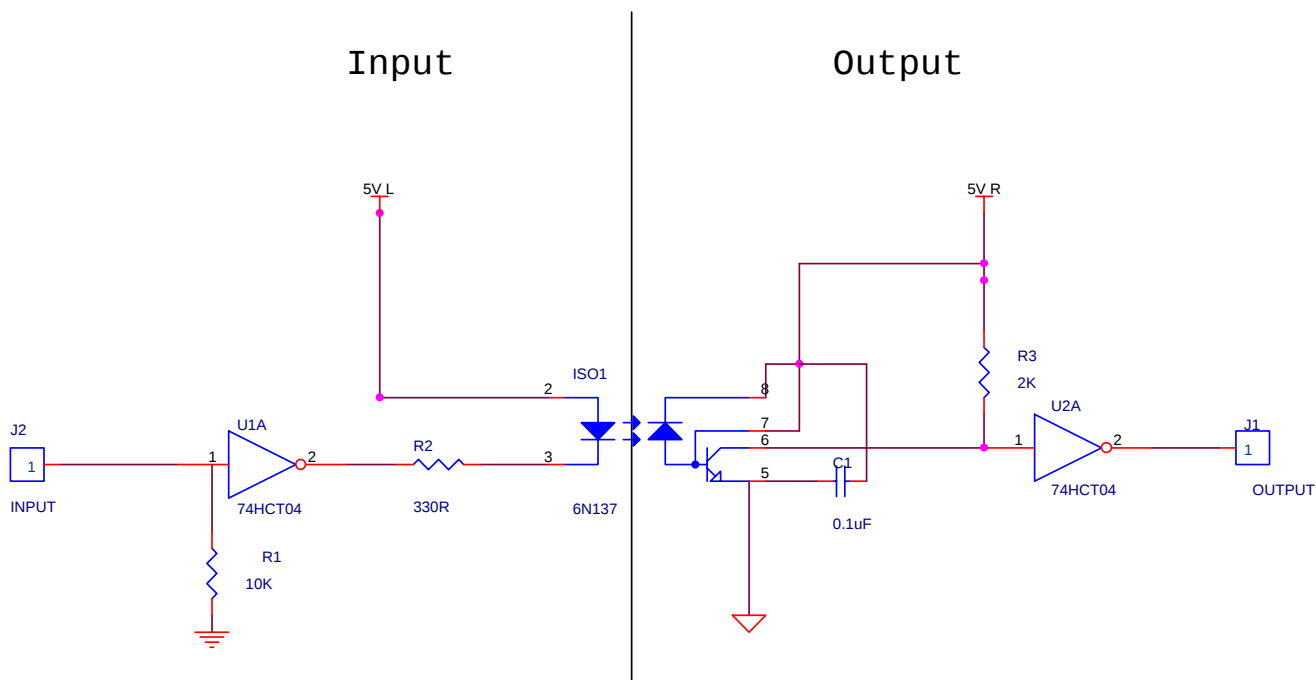
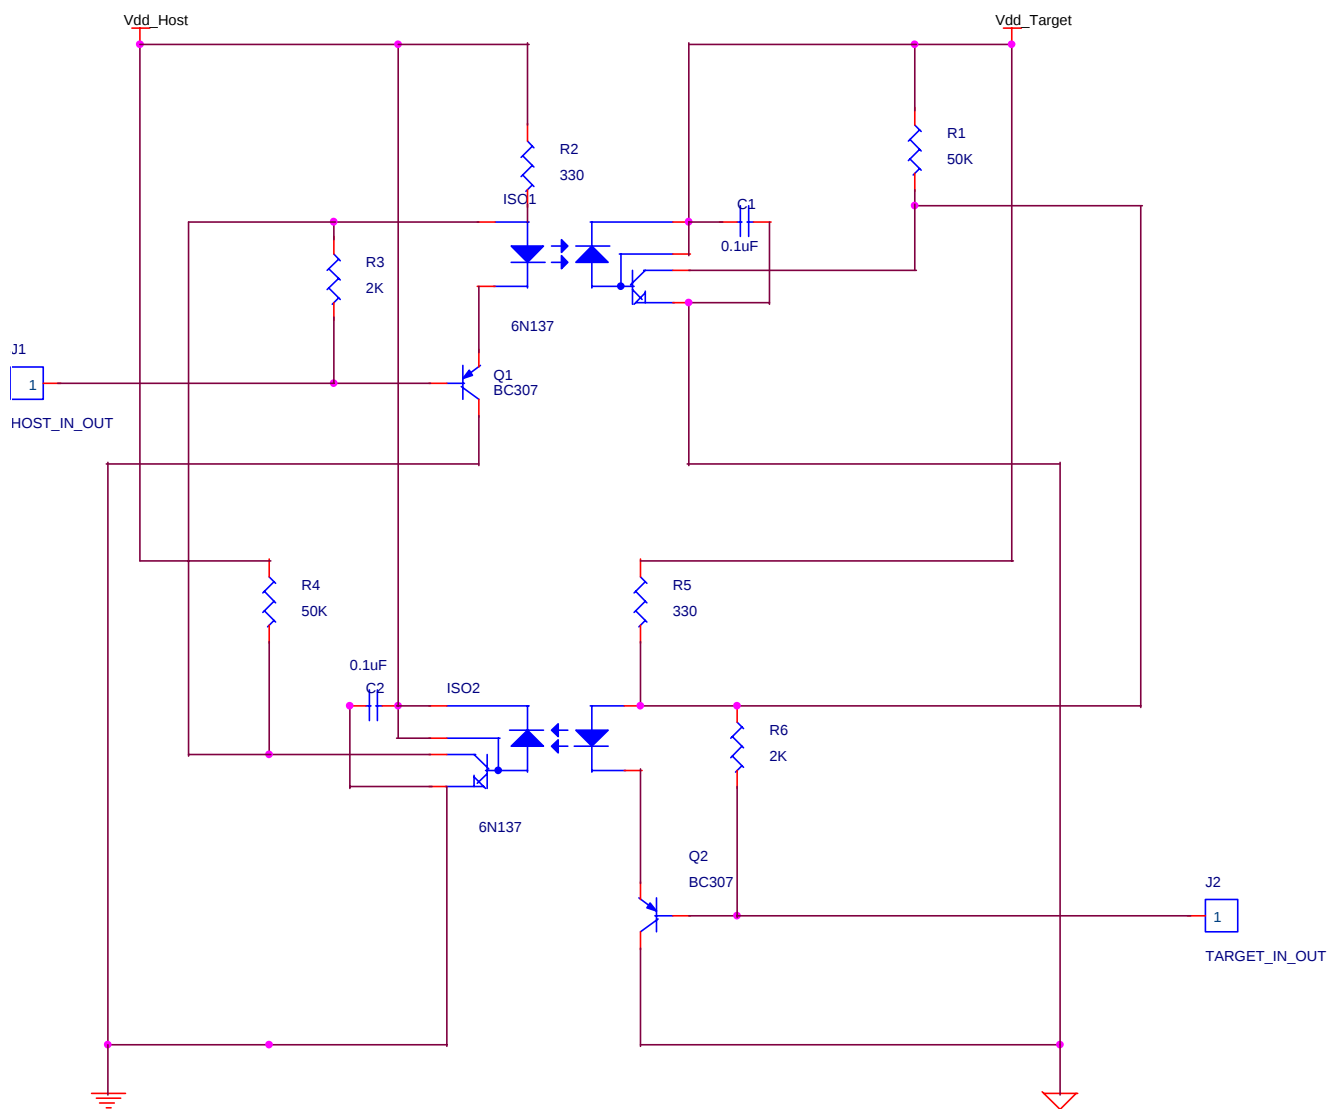
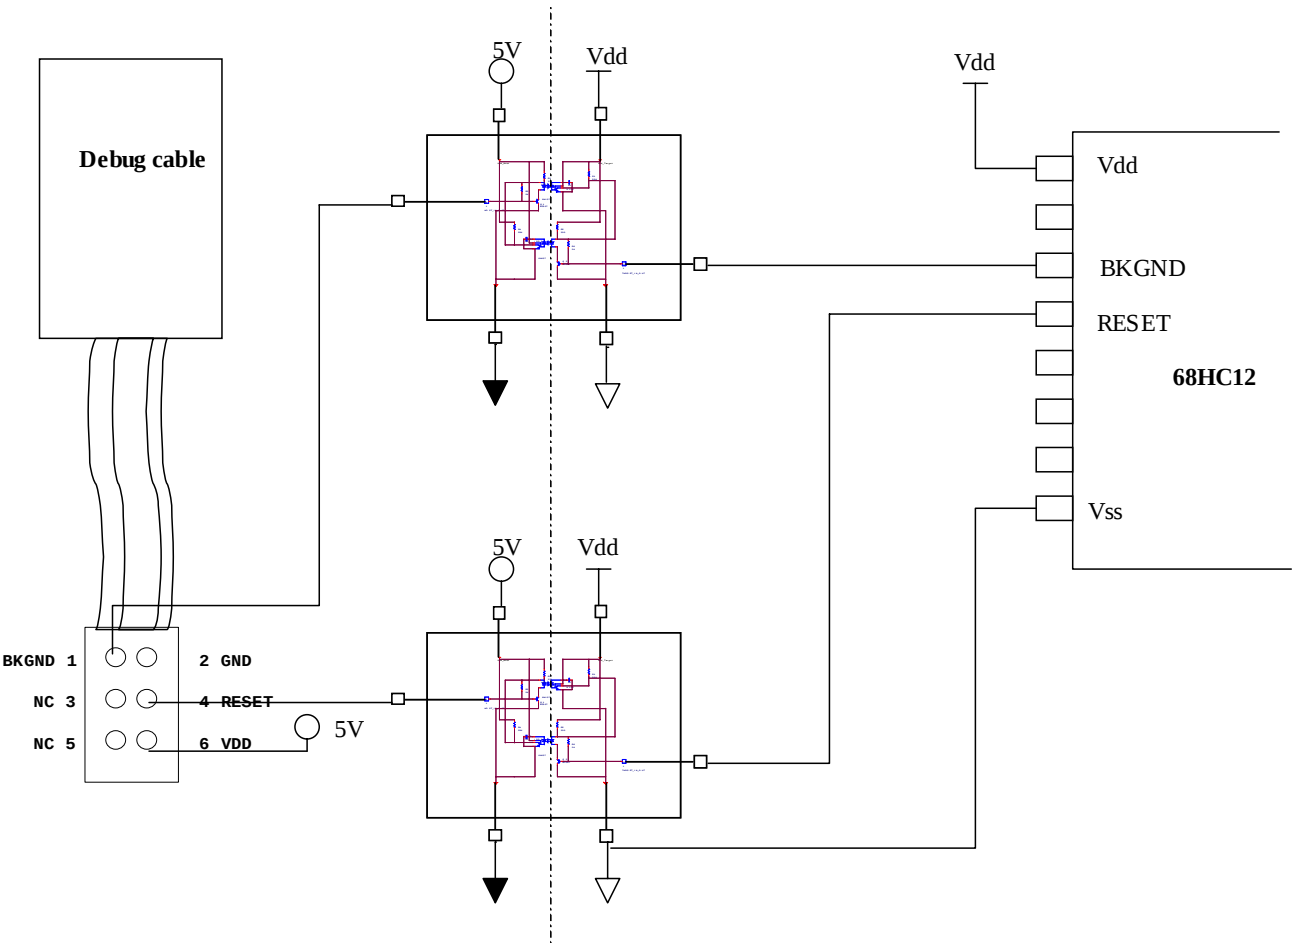

Figure 4. Opto Isolation of a unidirectional pin
Figure 5. Opto Isolation of a BiDirectional Pin
Figure 8. Optical Isolation Circuit for Background Debug Mode
The optoisolation circuit shown in **Figure 4 . Opto Isolation of a unidirectional pin** shows a standard circuit that can be used to isolate a unidirectional digital I/O pin.
Figure 5 . Opto Isolation of a BiDirectional Pin shows a circuit that allows opto-isolated bidirectional communications on a bi-directional digital pin. It uses 2 x 6N137 optoisolators, 2 PNP transistors and some passives.
- Power Consumption** A 6N137 optoisolator requires approximately 15mA current to drive its LED. This extra power requirement needs to be considered when choosing voltage regulators or other power supply components. For the bidirectional circuit shown in Figure 5 . Opto Isolation of a BiDirectional Pin, under normal operation condition, only 1 optoisolator will be active at any given time, so for this circuit, the designer need only allocate extra current for 1 optocoupler.
Figure 8 . Optical Isolation Circuit for Background Debug Mode shows a circuit that provides optoisolation for the debugging cable using 2 bidirectional circuits as shown in Figure 5 . Opto Isolation of a BiDirectional Pin.
The engineer can choose to select the operating mode of the 68HC(S)12 when the mcu resets by setting or clearing the MODA and MODB pins on the mcu. Mostly, these pins are hardwired in the application to select a particular mode of operation. However, some debuggers can connect to these pins and provide dynamic control over the operating modes. These pins can be easily optisolated using the circuit shown in Figure 4 . Opto Isolation of a unidirectional pin.
Other monitor mode pins (PTC0, PTC1, PTC3) can be 'hardwired' to allow monitor mode access, or they could be optoisolated using the circuit shown in **Figure 4 . Opto Isolation of a unidirectional pin**. Note, isolating all the monitor mode set-up pins would involve adding significant additional current requirements on the application's power supply
Figure 10 . Opto Isolation Circuit For Monitor Mode shows the monitor mode circuit with optoisolation using circuits shown in **Figure 4 . Opto Isolation of a unidirectional pin** and **Figure 5 . Opto Isolation of a BiDirectional Pin**.